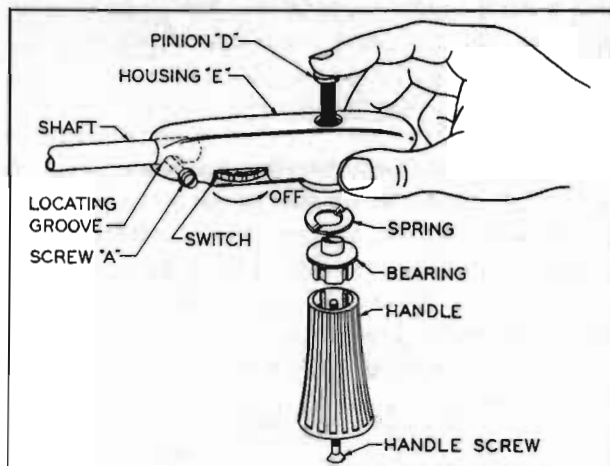

Figure 11-7—Assembly of Safety Light Pinion and Handle
3. Loosen screw "A." Remove handle screw, handle, bearing, and spring then push pinion up and remove it. Remove screw "A" and pull housing from shaft. See figure 11-7.
to see that pinion and racks move freely. Finally, tighten screw "A" securely. See figure 11-7.